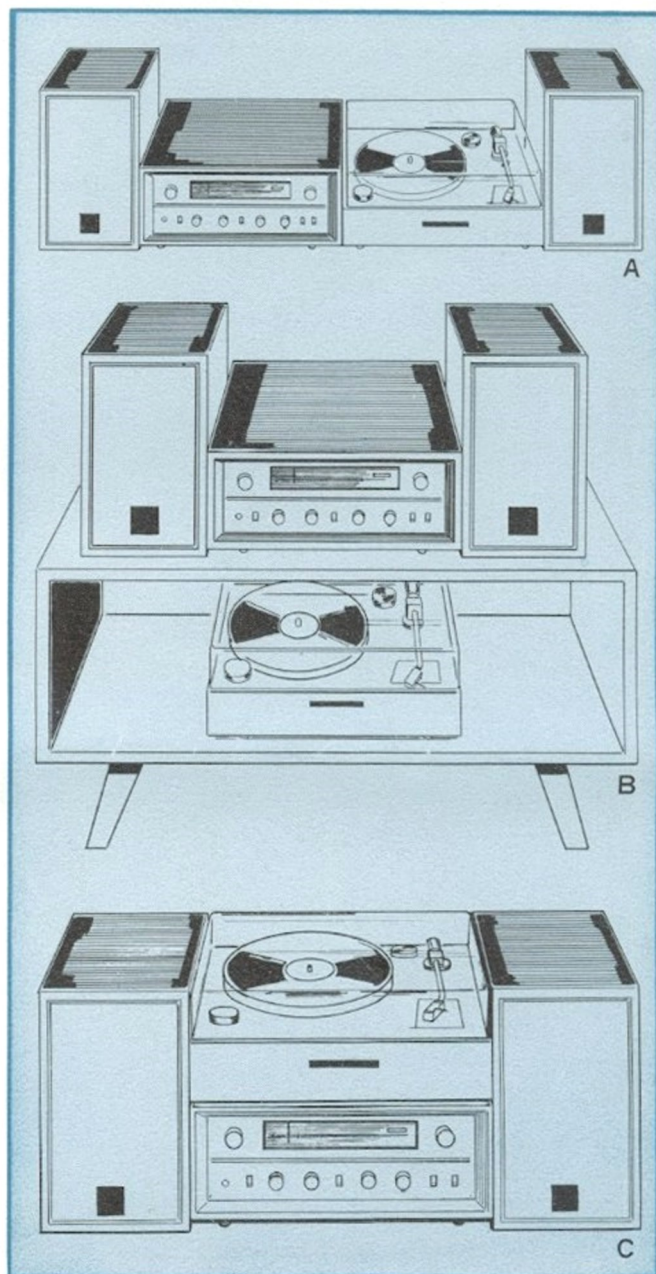

Fig. 1
- The C-2000 can usually be installed in any of the ways illustrated in Fig. 1. When operated in summer or for a long time in any season, however, (C) is not recommended because the heat accumulation is greater.